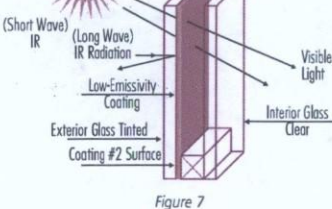

Figure 7
Low-E coatings on tinted glass play an important role in thermal performance by possessing high visible light transmission and low heat transfer properties. What's more, Low-E coatings on tinted glass reduce glare. When short-wave solar energy (IR) strikes the tinted exterior glass ply it is absorbed and converted into long-wave infrared or heat. By applying a Low-E coating to the second (#2) surface, the heat is reradiated back outdoors, reducing the heat gain potential into the building interior (see Figure 7).